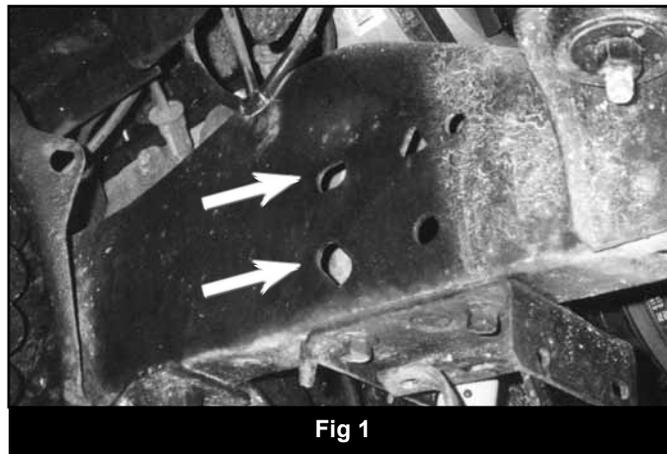

Fig 1
3. Locate the slotted holes on the outside of the passenger's side frame (Fig 1).